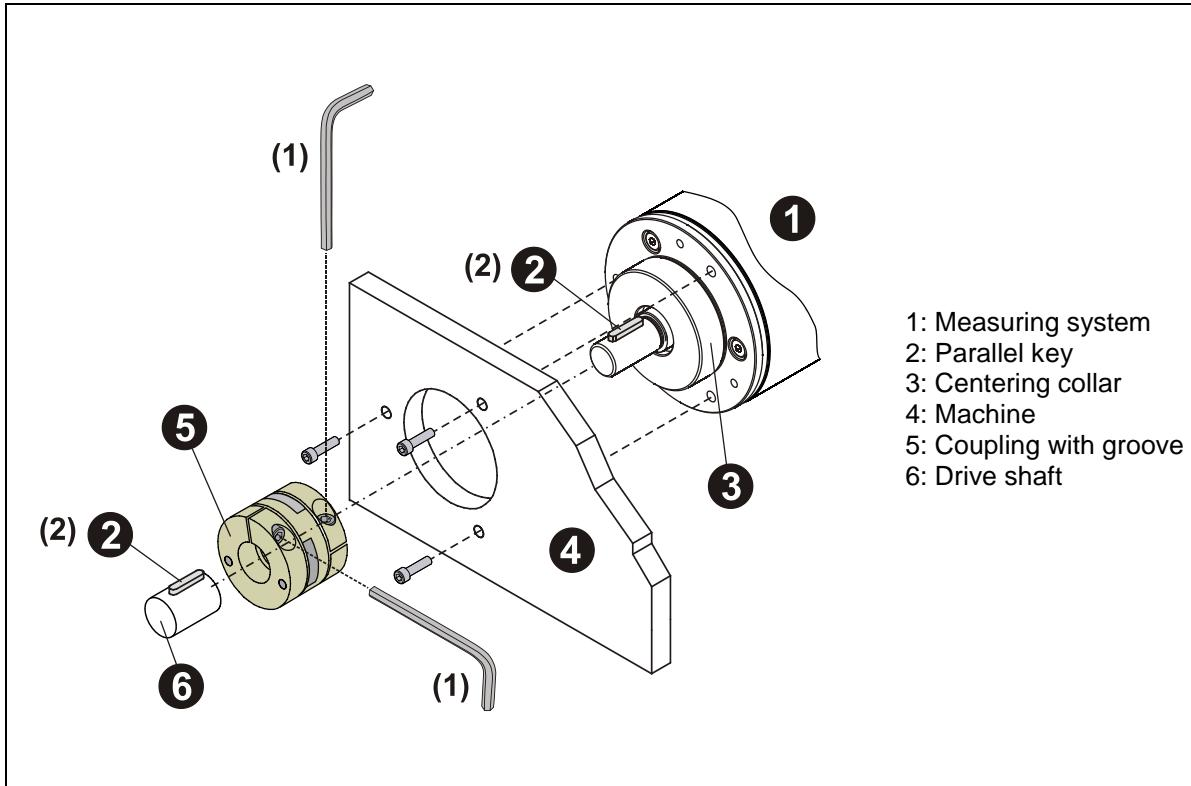

Figure 1: Flange mounting
- Axial slipping of the measuring system on the drive shaft must be prevented by the coupling fixing, see Figure 1, (1).
➤ Radial slipping (slip) of the measuring system on the drive shaft must be prevented by means of form closure by using a parallel key / groove combination (Figure 1, (2)); a coupling with groove must be used for this purpose.